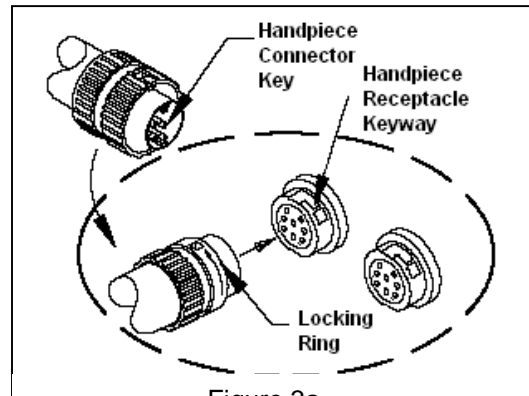

Figure 3a
6. Connect blue handpiece connector plug(s) to the blue power receptacle(s) **CH 1**, and/or **CH 2** in the following manner. See Fig. 3a.